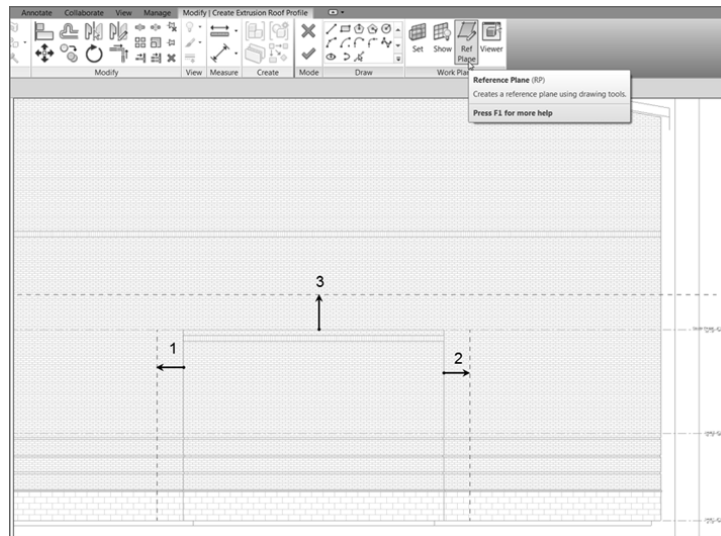

FIGURE 7.51: Adding reference planes to use as construction lines
- In the Work Plane panel, click Ref Plane, as shown in Figure 7.51, and then click the Pick Lines button.
- Offset a reference plane 3'-0" (900 mm) to the left and to the right of the exterior walls, marked 1 and 2 in Figure 7.51.
- Offset a reference plane 4'-0" (1200 mm) up from the top of the wall, marked 3 in Figure 7.51.